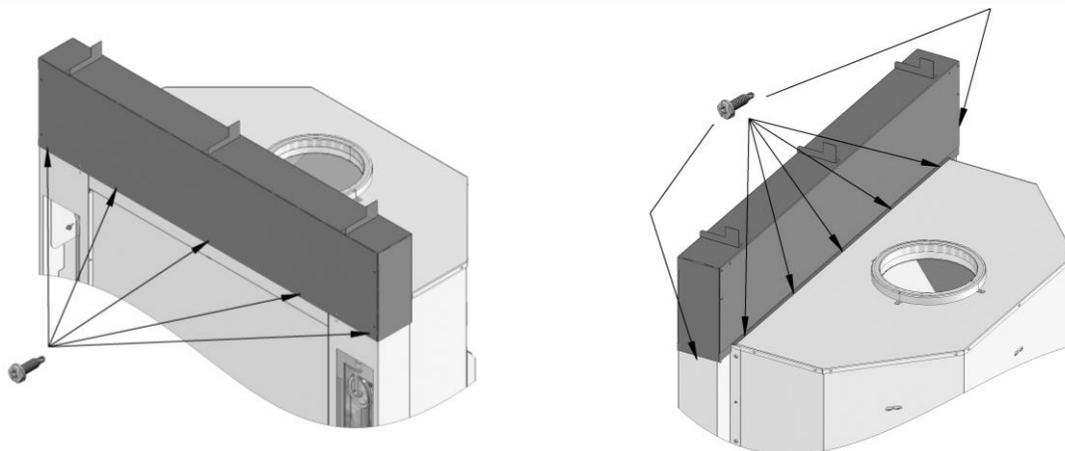

FIGURE 6 INSTALLATION OF THE TOP FINISHING COVER
2. Install the top finishing cover as shown in Figure 6. Put it on top of the fireplace. It should rest over the two side finishing covers and flush on the front. The back edge should be on the top of the fireplace casing as shown in Figure 6. Using two small self-